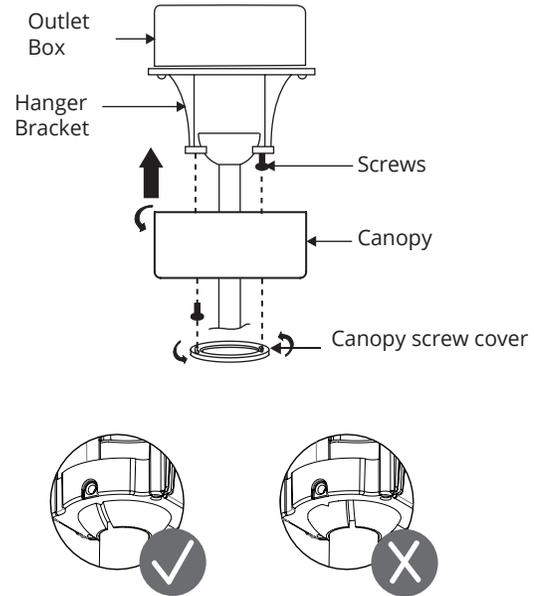

FIGURE 16
3. Slide the canopy up to hanger bracket and place the key hole on the canopy over the screw on the hanger bracket. Turn canopy until it locks in place at the narrow section of the key holes. (Fig. 16)